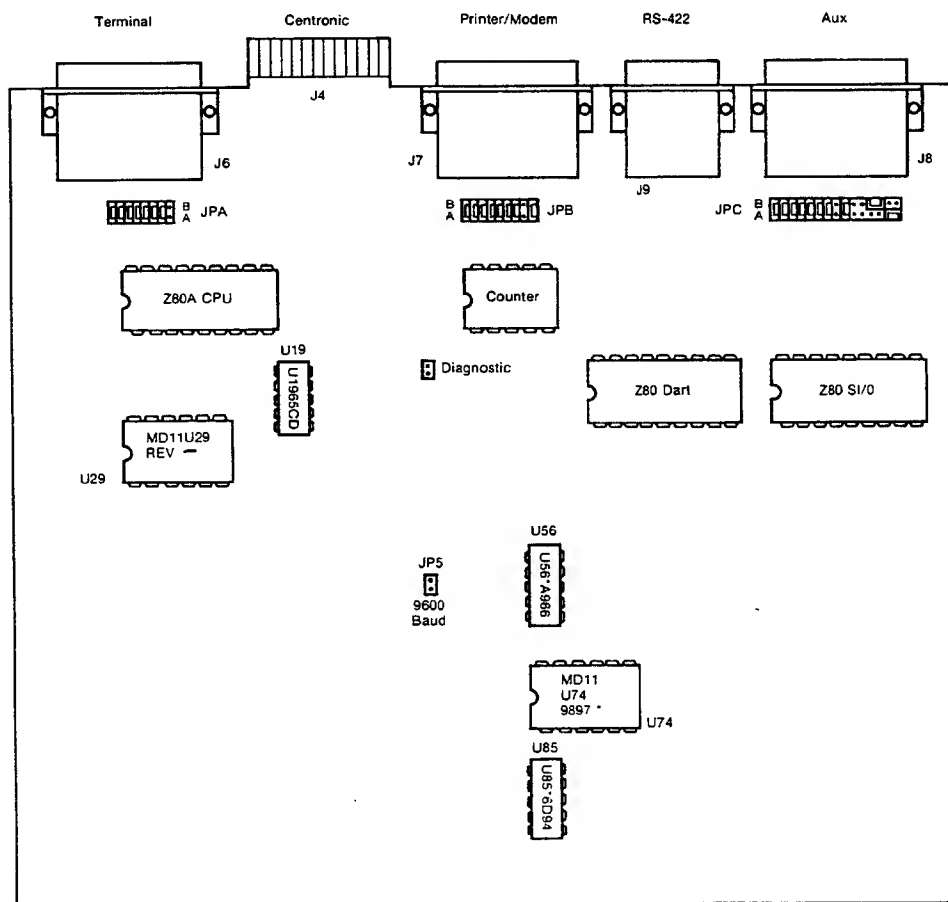

Figure B-1: Motherboard Details
- o Verify that ROM chip U29 (Figure B-1) is of the latest revision. It is sometimes necessary to update the CPM3.SYS and SYSLDR.COM files when upgrading a ROM. This information is available through Morrow Dealer Support.
The display of extended error codes is enabled when the diagnostics jumper (Figure B-1) is in place.
Figure B-1 illustrates all of the motherboard connectors, jumper blocks and critical chip locations. It can be used for reference when reading the rest of this section.